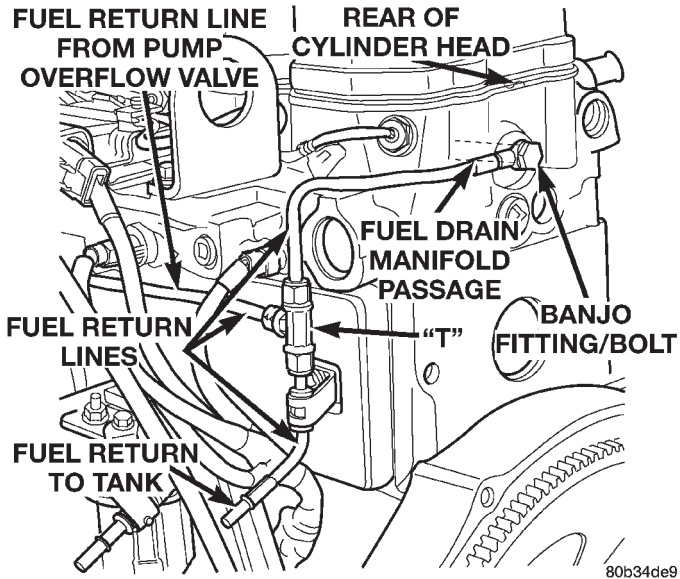

Fig. 45 Fuel Return Line at Rear of Cylinder Head
(1) Disconnect both negative battery cables at both batteries.
(2) Remove starter motor. Refer to Group 8B for procedures.
(3) Disconnect fitting at "T" (Fig. 45).
(4) Remove banjo bolt at rear of cylinder head. Discard old sealing washers.
(5) Remove fuel line from vehicle.
(6) Clean connection at rear of cylinder head before line installation.